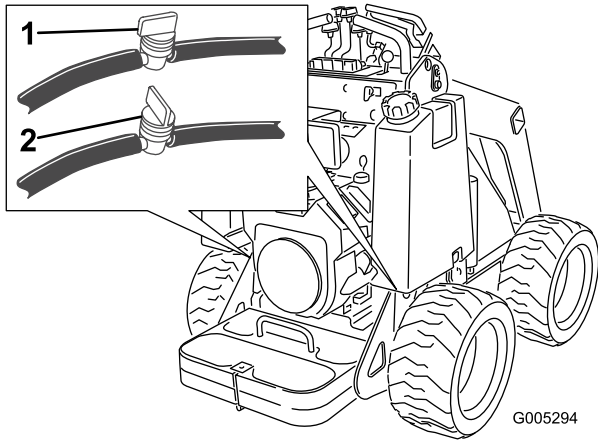

Figure 27
2. Shut off the fuel valve on the bottom of each fuel tank (Figure 27).
3. Shut off the fuel valve in the hose near the bottom of the fuel tanks (Figure 27).
8. Open the fuel valves in the hoses near the bottom of the fuel tanks as illustrated in Figure 27.